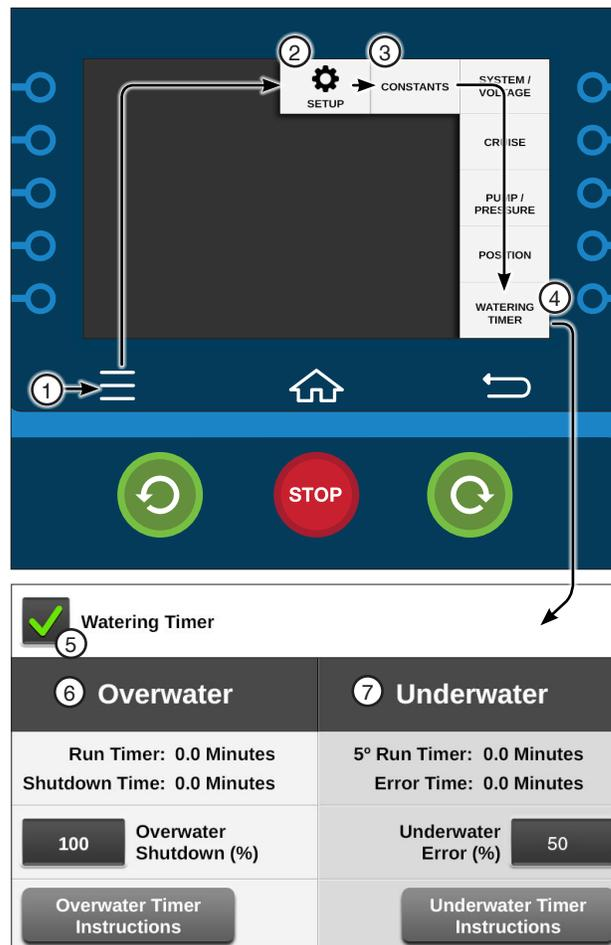

Figure 41-1 1. Menu 2. Setup 3. Constants 4. Watering Timer 5. Watering Timer Checkbox 6. Overwater 7. Underwater
1. Push **Menu**, **Setup**, **Constants** and **Watering Timer** to display the Watering Timer screen. Refer to Figure 41-1.
To view the status of the watering timers, push **Menu**, **Setup**, **Constants** and **Watering Timer** to display the Watering Timer screen. Refer to Figure 41-1.